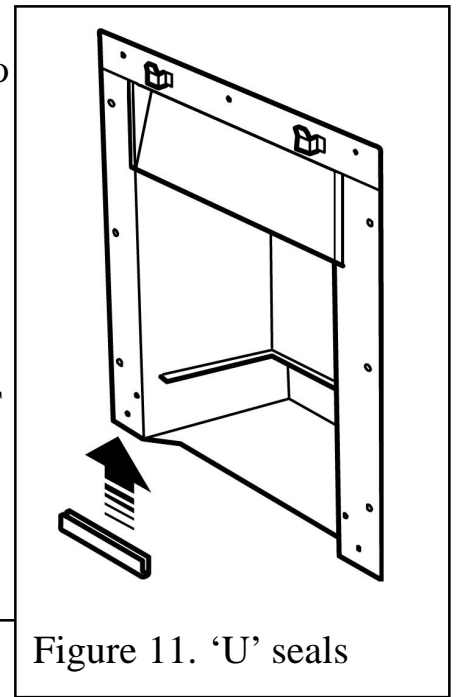

Figure 11. 'U' seals
2. Fit the two "U" section seals to the bottom edges of the hotbox side flanges (See figure 11).